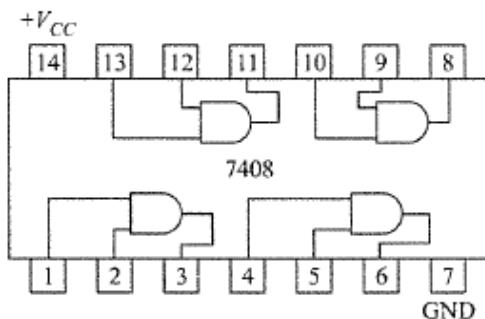

Figure 2.13: Pinout diagram of a 7408
- 7408 IC is a TTL quad 2-input AND gate (Figure 2.13).